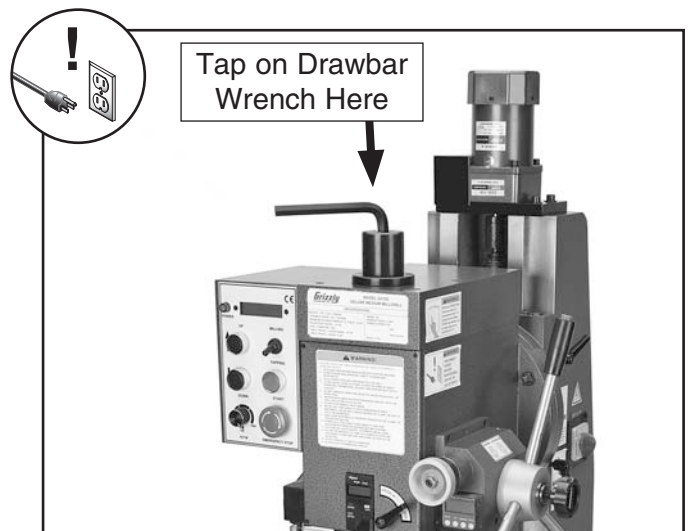

Figure 17. Drawbar wrench.
5. Put on safety goggles and tap the top of the drawbar wrench with the hammer. This will unseat the taper of the arbor from the spindle (see **Figure 17**).